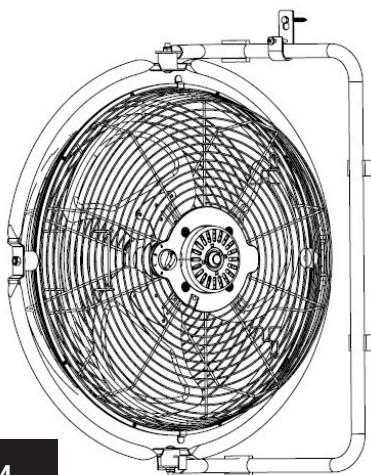

Fig.4
2. Carefully mount the fan onto the bracket (**Fig. 4**).